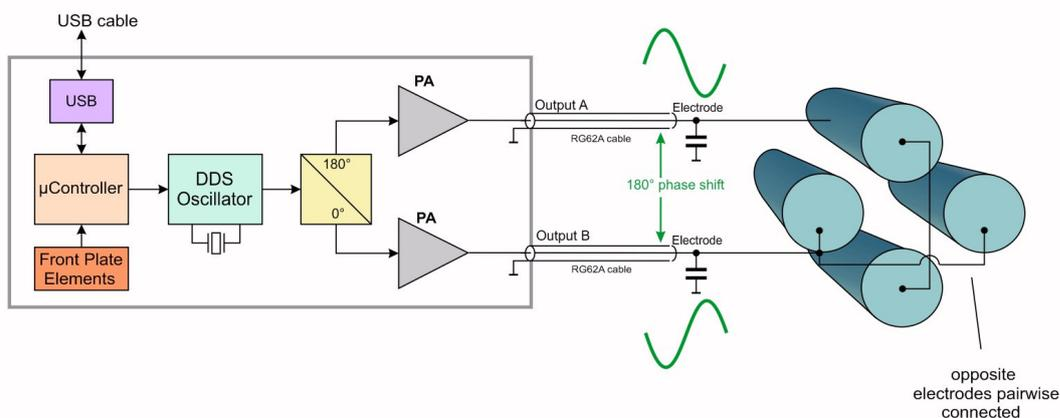

Fig. 2a: Block diagram of the internal structure, illustrating the functional principle.
The following picture (fig. 2a) displays a block diagram of the internal structure, illustrating the functional principle. A digital oscillator provides a sine wave of freely adjustable and precise frequency. An inverter circuit creates the inverted signal, or in other words a 180° shift. These two signals are fed into power amplifiers (one for each channel) and the resulting signals are presented at the output (typ. a few hundred volts of voltage).
The device features an offset DC input, by which the output voltages can be shifted. Voltages being applied to these input lines are added to the AC signal (RF) of the outputs (this feature is not shown in fig. 2a/b).